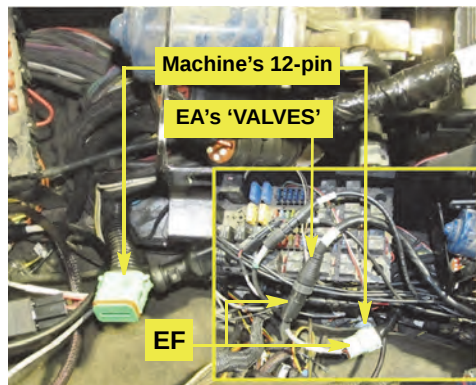

Figure 3b: Adapter cable to machine's harness
- b. In the rear cabling compartment, locate the machine's unconnected 12-pin connector (Figure 3b near the wiper motor). Install adapter cable **EF** between that connector and **EA**'s branch cable labeled 'VALVES' (Figure 3b).
Connect **ED**'s or **EE**'s branch cables to **EA**'s branch cables labeled 'EXT_POWER' (Figure 3b inset), 'RMT_ENGAGE' and 'TERMINAL' (EE/STX only) or the Outback MAX power cable (not shown—see Appendix A or B).